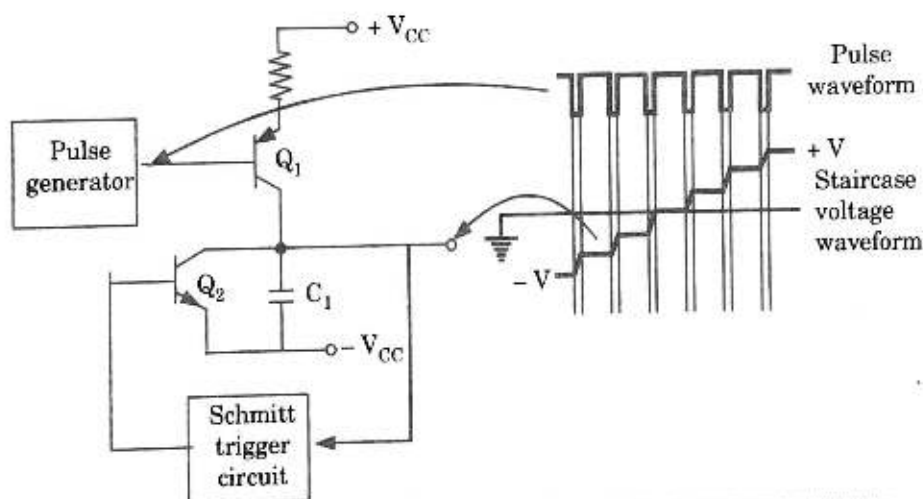

Fig. 4.12.1. Basic circuit and waveforms for a staircase generator.
1. Fig. 4.12.1 shows the basic circuit of a staircase generator.